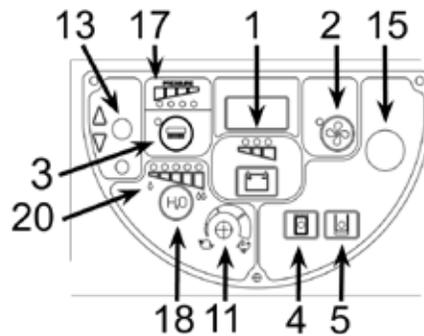

Fig. 6
- **Drive lever** (fig. 6, ref. 7): the drive lever moves the machine forward and rotates the brushes.
- **Squeegee lever** (fig. 6, ref. 8): raises (if lowered) or lowers (if raised) the squeegee.
- **Direction adjustment knob** (fig. 6, ref. 10): turn to correct any deviation of the machine from a straight line.
- **Head lowering/raising pedal** (fig. 6, ref. 9): on the left side of the machine, when pressed, it lowers/raises the brush head.
- **Detergent tank level indicator** (fig. 6, ref. 5): the LED comes on to indicate insufficient water in the detergent tank.
- **Dirty water drum level indicator** (fig. 6, ref. 4): when the dirty water drum is full, the LED comes on and after a few seconds the suction motor shuts down.
- **Direction selection** (fig. 6, ref. 13 - traction models only): sets movement of the machine to forward or reverse.
- **Alarm indicator** (fig. 6, ref. 16 - 690 XTT only), depending on the frequency, the LEDs come on and defines the board error code. When operating without malfunction, the LED is on steadily.
- **Speed control potentiometer** (fig. 6, ref. 11 - traction models only), turning the potentiometer sets the maximum machine speed.
- **Pressure control light** (fig. 6, ref. 17 - 400 XTT/550 XTT model): consists of 3 green LEDs and 1 red LED indicating the pressure of the brush on the work surface. There may be:
2. Push the head pedal down then to the right (fig. 6 ref. 9) to raise the head;
- **Versions with traction:** to move the machine forward, press the selector (fig. 6 ref. 13), then operate the drive lever (fig. 6 ref. 7). To move the machine backwards, press the selector (fig. 6 ref. 13), then operate the drive lever (fig. 6 ref. 7); speed can be varied by the potentiometer knob (fig. 6 ref. 11).
4. Once you have reached your destination, lower the head by pressing the release pedal (fig. 6 ref. 9) down and to the left, then release it.
- **Fitting the brush (one-brush models):** Rest the brush on the floor in front of the machine and center it with the guard. Lower the head and repeatedly action the brush/drive control lever (fig. 6, ref. 7) until the brush automatically engages on the flange hub. If the manoeuvre is not successful, press on the handle again and repeat the centering and repeated actioning of the brush/drive lever.
- **Removing the brush (one-brush models or no traction):** Raise the machine head by pushing the head lift pedal down and then to the right (fig. 6, ref. 9) and repeatedly action the brush/drive lever. After a few pulses, the brush/es (or drive disk) is released and falls to the ground.
- **Removing the brushes (two-brush models):** Raise the machine head by pushing the head lift pedal down and then to the right (fig. 6, ref. 9). Turn the right brush anticlockwise, releasing it from the drive disk. Turn the left brush clockwise, releasing it from the drive disk.
- **Attaching the brush rollers:** lift the head by pressing the head lowering/raising pedal (fig. 6, ref. 9) and fit the rollers in their housing (fig. 16), first inserting them on the drive pulley and then pushing them upwards until they click into place.
- **Removing the brush rollers:** Head lowering/raising pedal (fig. 6, ref. 9): release the brushes by pulling them downwards from the side opposite the drive pulley, then extracting them from their housing.
- Lower the head by means of the pedal (fig. 6, ref. 9);